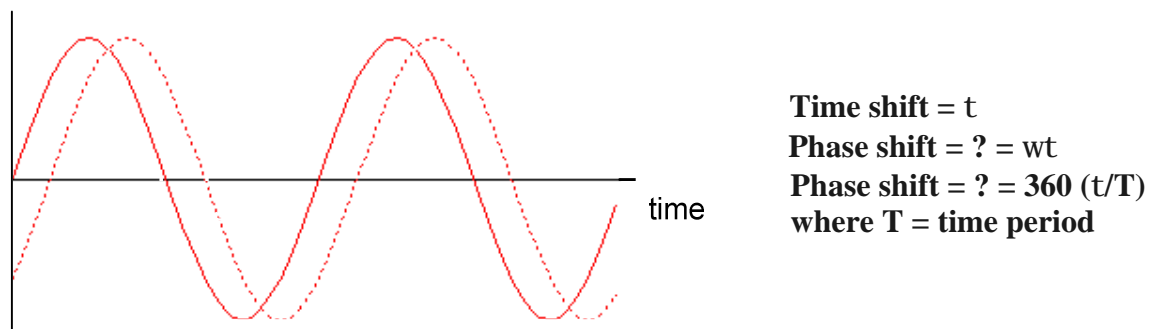

Figure 2: Phase angle measurement
where, i is the instantaneous value of current, I_m is the peak value, ω is the angular frequency and ϕ is the phase angle of the current with respect to the source voltage. Phase angle can be measured by using the two traces of a dual trace oscilloscope and measuring the time difference between two waveforms, as shown in Figure 2.
5. Change the position of resistor R_1 to that shown in Figure 2. This change will not affect the circuit. Connect Ch A to point 'a' and Ch B to point 'g'. Measure amplitude of the voltage across R_1 (V_1) from Ch B. Determine phase angle ϕ_1 of voltage V_1 with respect to generator voltage 'e'. Determine the amplitude I (V_1/R_1) and enter time domain expression for i below.